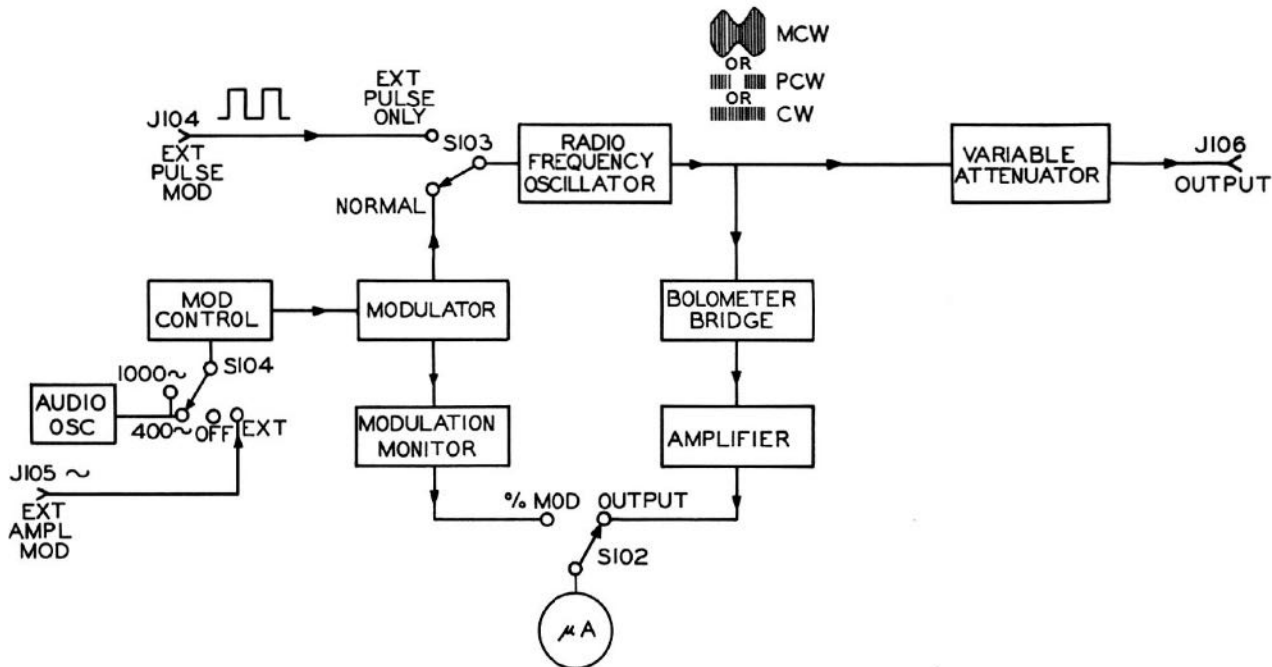

Figure 2-1. RF Signal Generator SG-45A/URM-26, Functional Block Diagram
a. A functional block diagram of RF Signal Generator SG-45A/URM-26 is shown in figure 2-1.